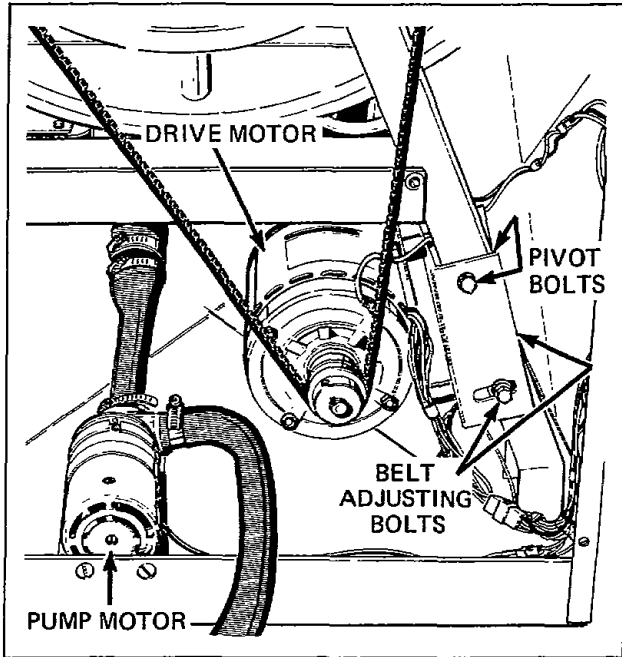

Figure 30
- g. Disconnect drive motor wire harness at terminal block, and blower motor and out-of-balance switch wires at connectors, *Figure 30*.
- h. Pump Models: Disconnect pump motor wires at connectors, *Figure 30*.
**32. DRIVE MOTOR AND BLOWER ASSEMBLY** (*Refer to Figure 30*)
- c. Loosen motor pulley setscrews and remove pulley, *Figure 30*.
#### 36. PUMP ASSEMBLY (Refer to Figure 30)